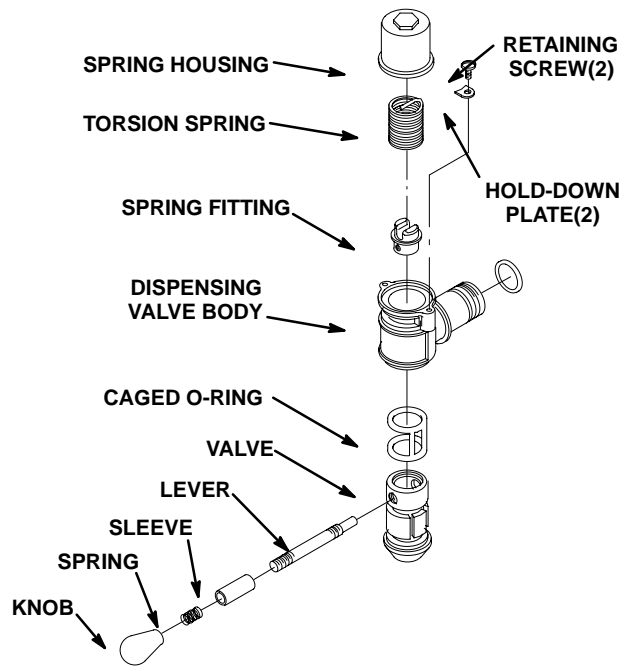

FIGURE 7. SELF-CLOSING DISPENSING VALVE
(see Figure 7)
3. Carefully remove large O-RING (item 5) from FACEPLATE (item 8).
4. Unscrew RELIEF VALVE (item 9) from FACEPLATE (item 8).
5. Disassemble dispensing valve (see Figure 7) as follows:
6. Wash all parts in warm water. Remove all traces of syrup and lubricant, especially from faceplate, O-rings, and dispensing valve. If parts are excessively coated, wipe clean with paper towel to remove syrup and lubricant, especially from caged O-ring and dispensing valve. Use BRUSH (item 3, Table 3) to clean faceplates relief valve passages.